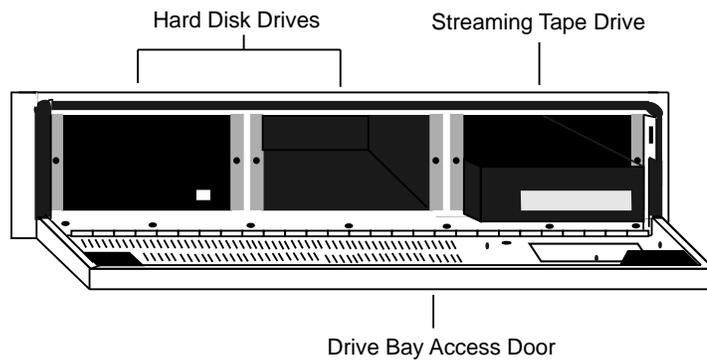

Figure 2-7. MAP/100C Front View – Peripheral Bay Door Open
2. Use the indentations around the slide latches to swing the door downward toward you. See Figure 2-7.